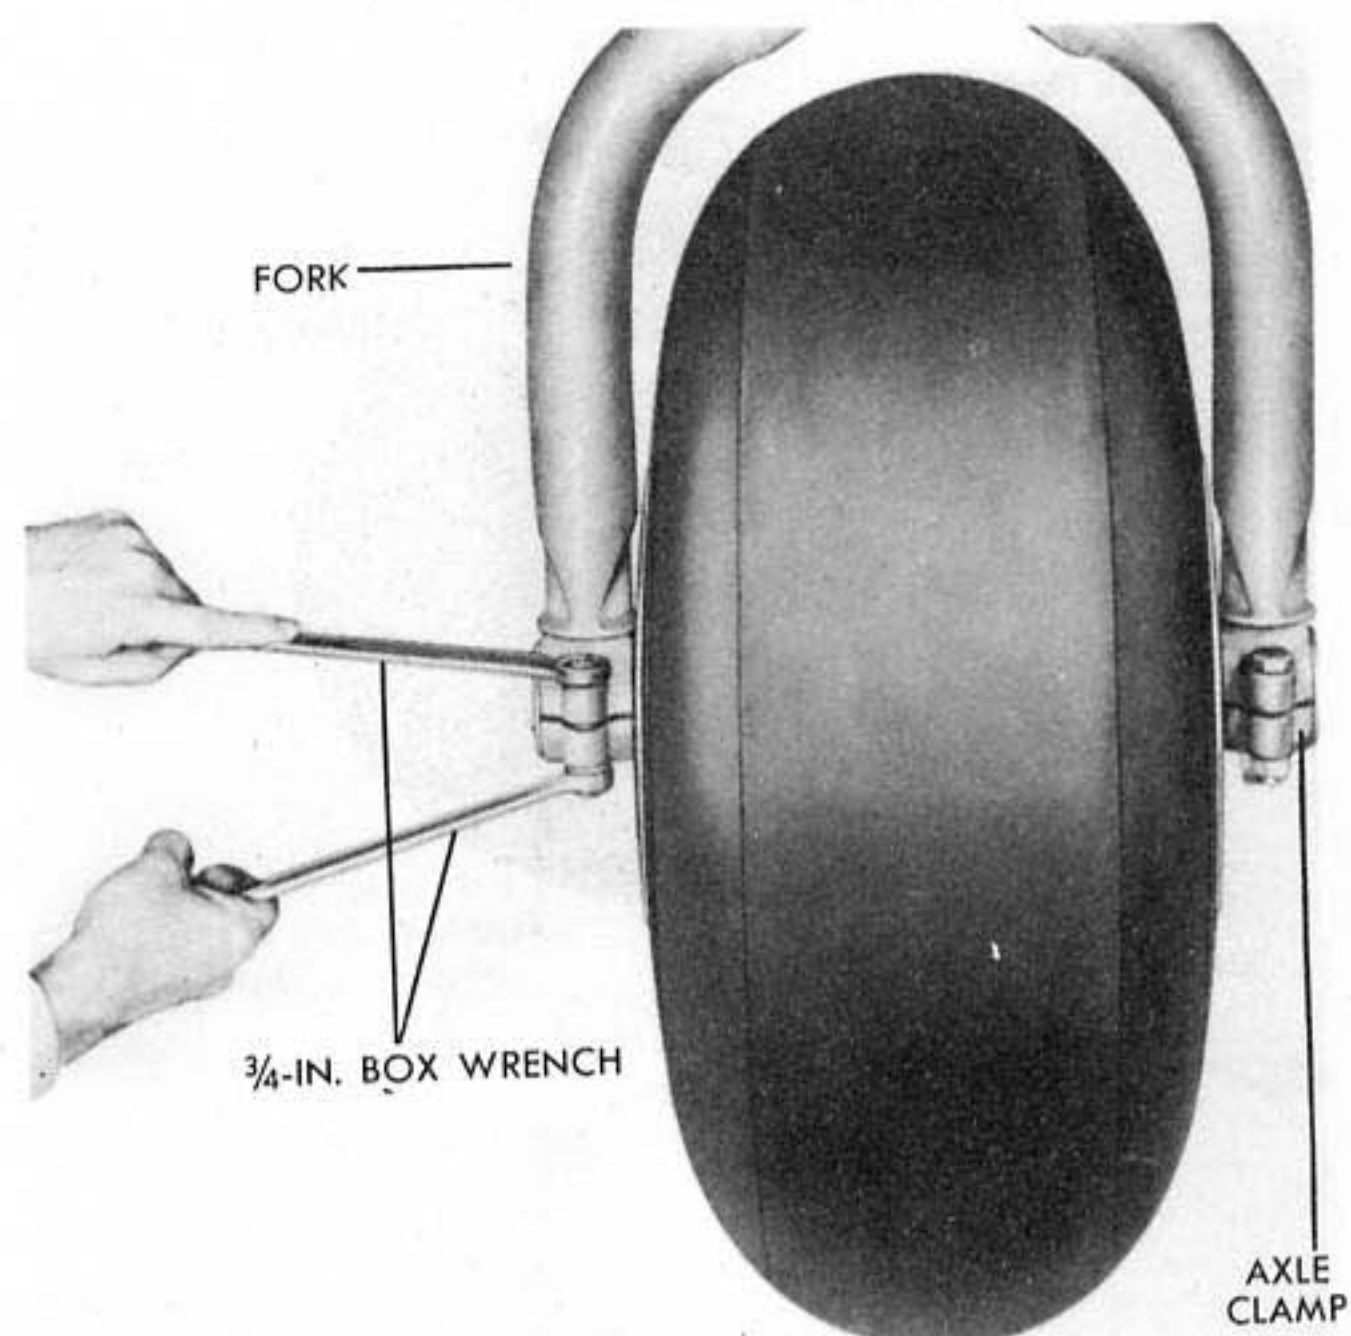

Figure 81 - - REMOVING NOSE WHEEL
(6) REMOVAL OF NOSE WHEEL. (See figure 81.)
(2) INSTALLATION OF NOSE WHEEL. (See figure 81.)